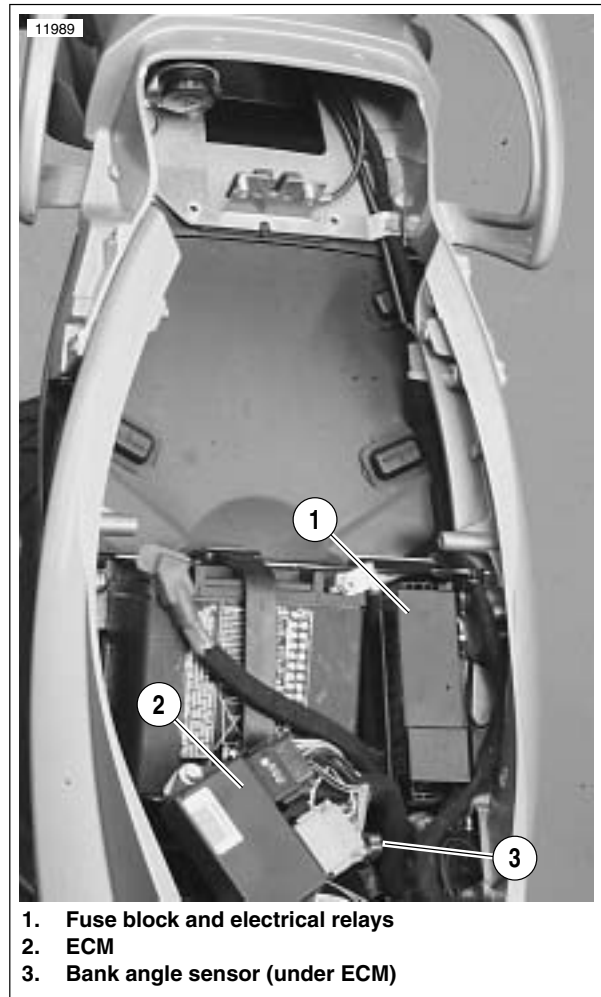

Figure 4-77. Bank Angle Sensor Location
3. See Figure 4-77. Remove screws and washers to detach sensor.
1. See Figure 4-77. Install bank angle sensor connector [134].